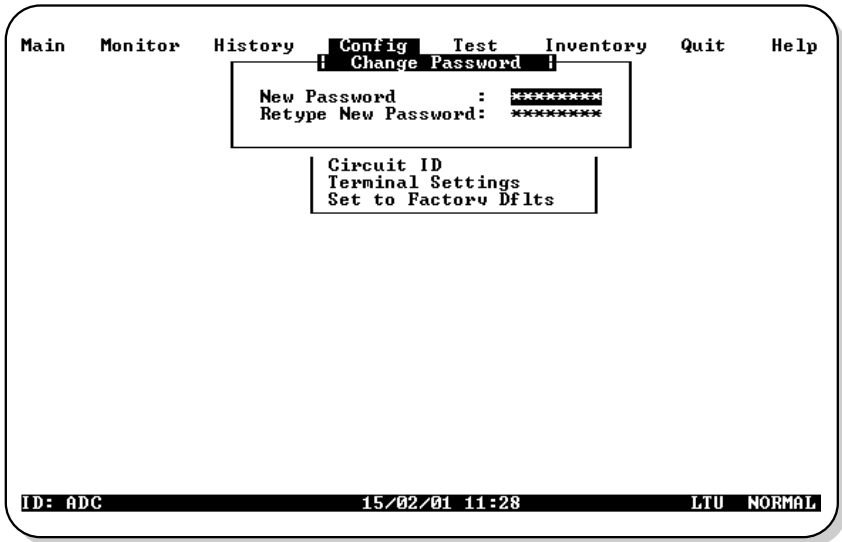

Figure 12. Config Change Password Menu
- 1 Press **P** at the Config drop-down menu to display the Config Change Password menu (Figure 12).